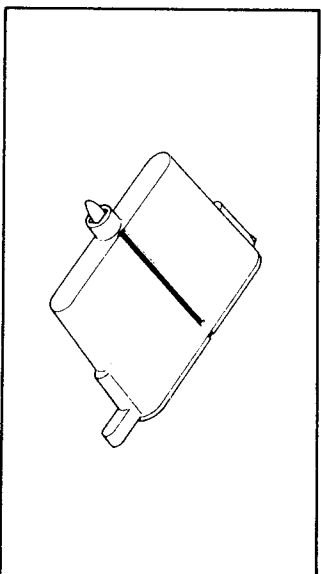

Figure 3-11.
1. The felt-tip pen cartridges are made of plastic, and marked with the ink color on the front and top as shown in Figure 3-11.